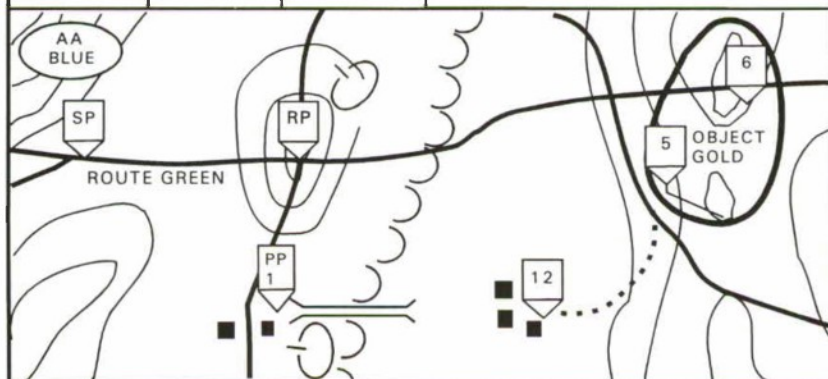

Figure 2-6. Route chart for compass and odometer navigation method.
- Develop a chart listing the legs or parts, azimuths, and distances. Write a description of each leg or part. Refer to Figure 2-6, page 2-32, for an example.